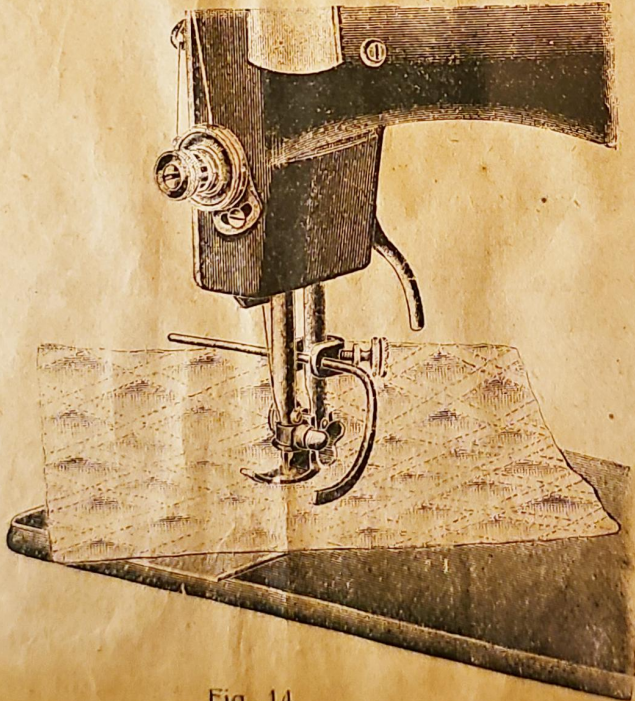

Fig. 14
3. The Quilter Guide (Fig. 14).
(fig. 14). The gauge arm can be adjusted to the required distance from the stitch hole according to the size of the squares required. After having tacked the material on the wadding, so as to keep it